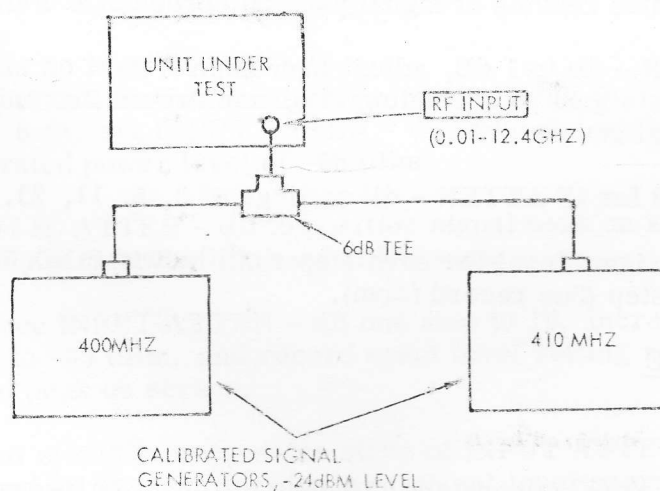

Figure 6-3. Dynamic Range Check
- (1) Connect to RF INPUT two calibrated signal generators (3, table 6-2), combined in a 6 dB tee (see figure 6-3).
- (2) Set one signal generator at 400 MHz, -24 dBm signal level; set the other at 410 MHz, -24 dBm signal level. Two signals should appear near full scale on screen.
- (3) Check the display. Intermodulation products shall be at least 46 dB down on right hand scale.